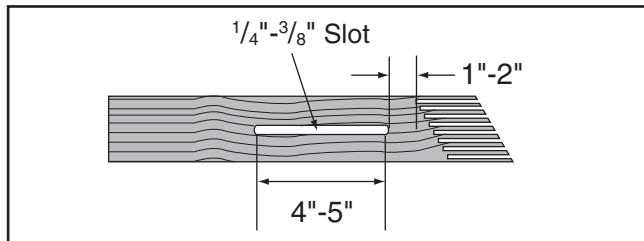

Figure 69. Slot routed in featherboard.
4. Rout $\frac{1}{4}$ "– $\frac{3}{8}$ " wide slot 4"–5" long in workpiece and 1"–2" from short end of featherboard (see **Figure 69**).